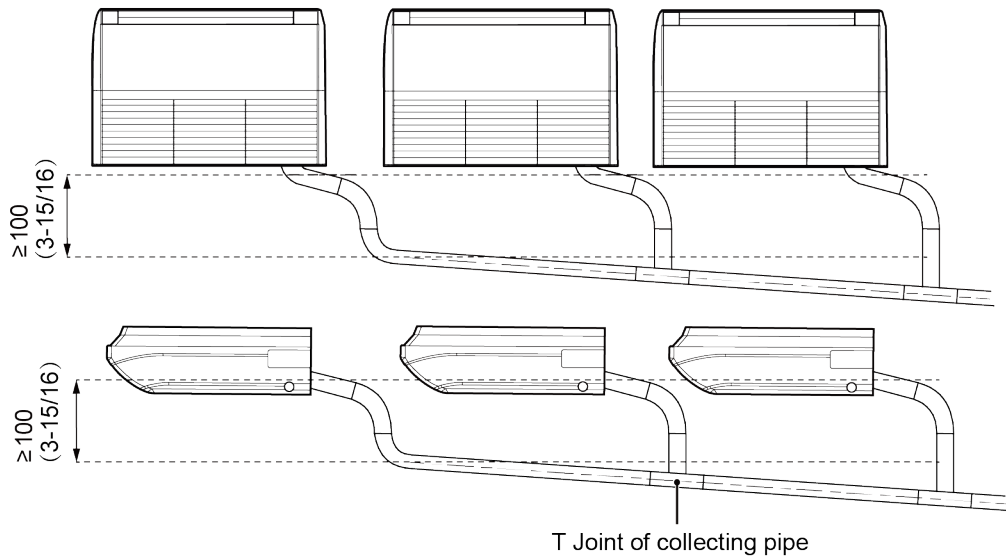

Fig.4.3.2.1
- (1) Drainage pipe should have the same diameter or larger diameter than the connection pipes (PVC pipe, outside diameter 17mm (11/16inch), thickness \geq 1.75mm (1/16inch)).
- (2) Keep drainage pipe short and sloping downwards at a gradient of at least 1% for preventing forming air bubbles.
- (3) Insert the drainage hose into drain socket, tighten the metal clamp securely.
- (4) Warp the sealing pad over drain hose and metal clamp for heat insulation.
- (5) Make sure to perform insulation work for all drainage piping in order to prevent any possible water drop due to dew condensation.
- (6) Apply the suitable diameter for converging drainage pipe according to the operating capacity of the unit, as show in Fig.4.3.2.1.